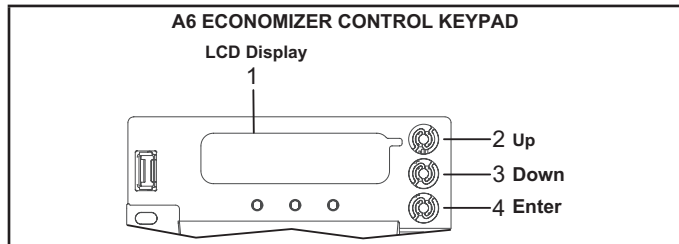

**FIGURE 31**
- 1 - Locate brown and white kit harness with wires labeled P104-1 & P104-2 on one end and RT26-1 & 2 on the other end. Insert the connector with wires labeled P104-1 & 2 into J104 jack previously installed on the side of the economizer. See figure 40. Connect wires on other end of P104 harness to RT26 on divider panel. See figure 31.
- 2 - Connect blue A63-8 wire to CO2 sensor Vout lead. Connect brown A63-7 wire to CO2 sensor COM lead. Secure with wire nut. See figure 31.